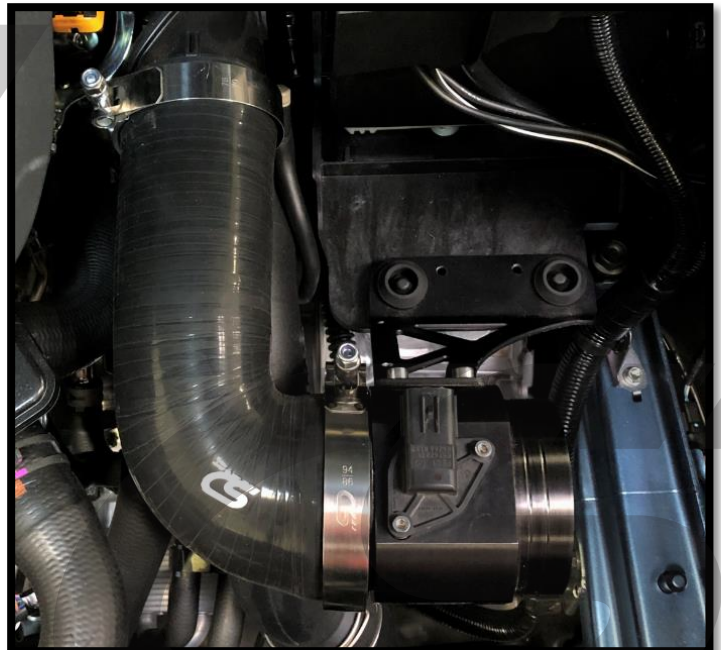

Figure 4b
- f) Fully seat both sides of the CorkSport Intake Elbow and then tighten the two T-bolt clamps. Shown positioned correctly but loose in Figure 4b.